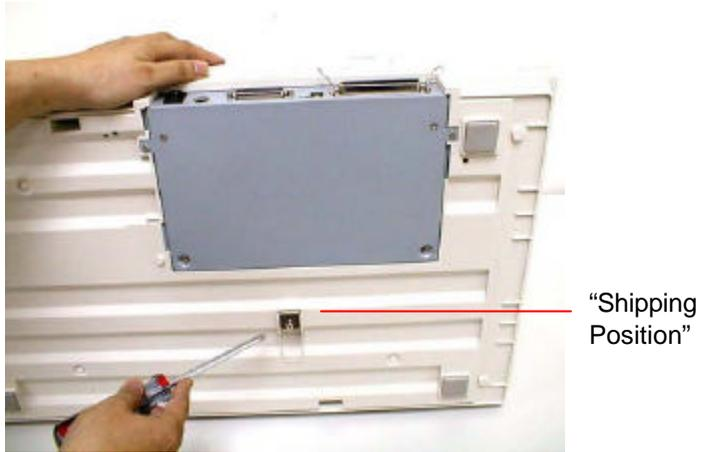

Figure 2-1 Remove the shipping retainer.
To ensure the optimum performance of the scanner, please take a few minutes to read through this manual before you install and operate the new scanner. The manual contains important information on how to unpack, install, operate, and maintain the scanner properly. Figure 2-1 in below shows how the scanner is packed. Please check if all items are included.
1. Place the scanner on its side as shown to reveal the shipping retainer as shown in Figure 2-1.